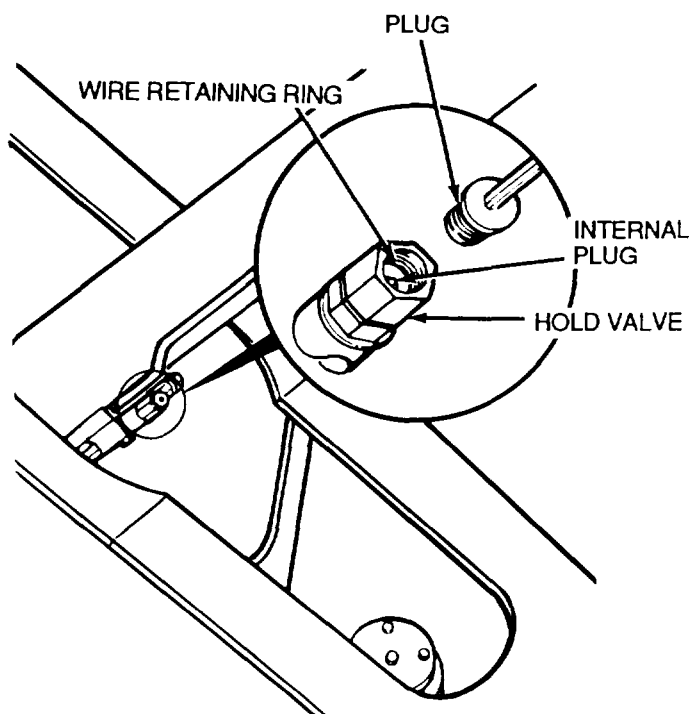

Figure 4-55. *Internal Plug*
1. With a 5/16 in. hex allen wrench, remove plug from the hold valve cartridge protruding up on bottom side of hoist cylinder (Figure 4-55).